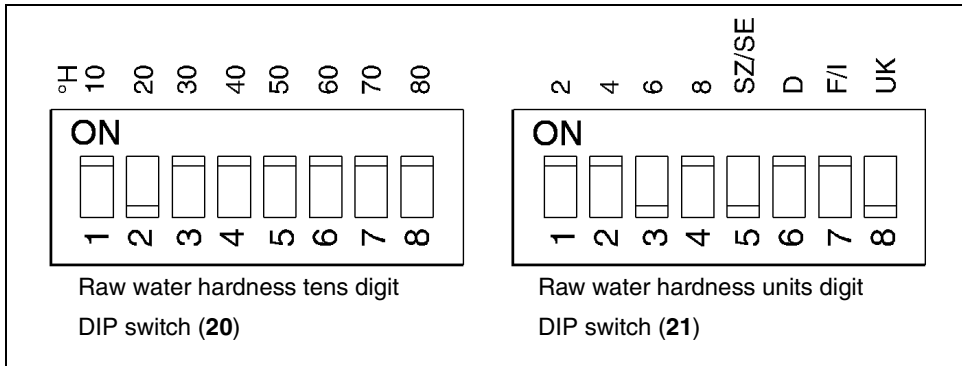

Fig. 9: DIP switch
The units digit of the raw water hardness is set using the DIP switch (**21**), contacts 1 to 4 (see Fig. 9).
- Push contact 2 of the DIP switch (20) and contact 3 of the DIP switch (21) into the position opposite to „ON“ (see Fig. 9).